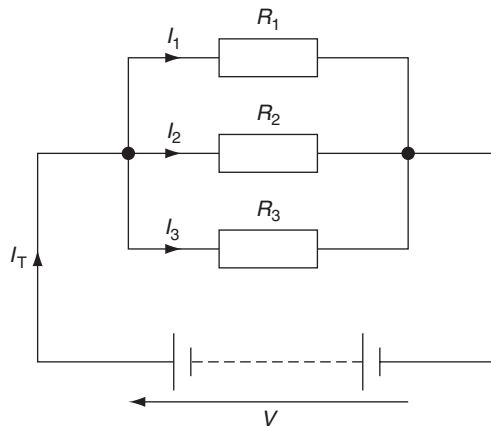

FIGURE 2.4
- In any parallel circuit the same voltage acts across all parts of the circuit as shown in Fig. 2.4.
- The total current is made up of the sum (the addition) of the individual currents as shown in Fig. 2.4.